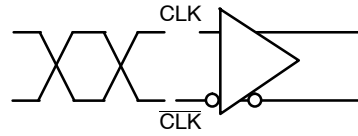

Figure 8. Differential Inputs Driven Differentially
**DIFFERENTIAL INPUT DRIVEN DIFFERENTIALLY** (Figures 8, 9, 11) (Note 6)